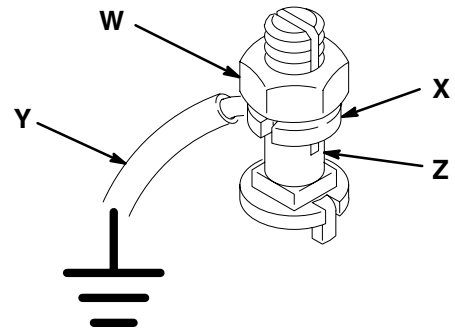

Fig. 1
1. *Pump*: loosen the grounding lug locknut (W) and washer (X). Insert one end of a 1.5 mm² (12 ga) minimum ground wire (Y) into the slot in lug (Z) and tighten the locknut securely. See Fig. 1. Connect the other end of the wire to a true earth ground. Order Part No. 237569 Ground Wire and Clamp.